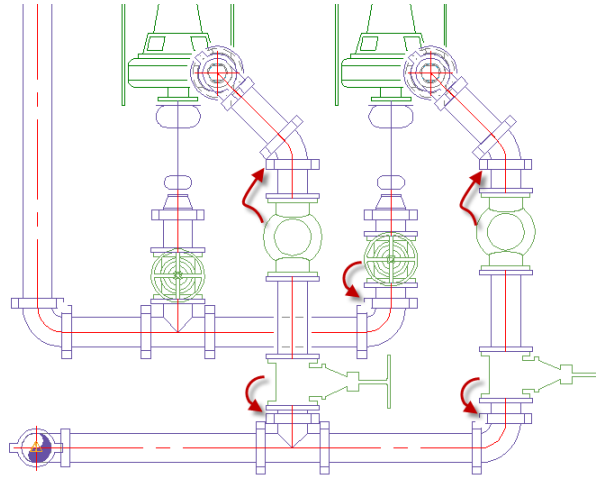

Figure 6.52
4. Repeat this process to move all the valves to the associated fittings (see Figure 6.52).